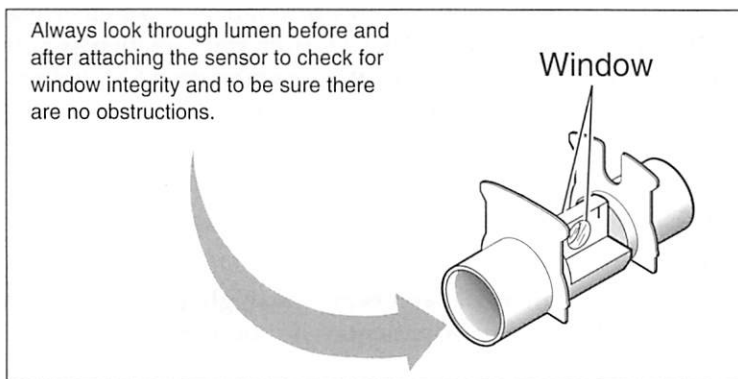

Figure 2-39. Airway adapter
- 1 Remove an airway adapter from its plastic bag and inspect it for any obstructions in the lumen and for window integrity (see Figure 2-39).